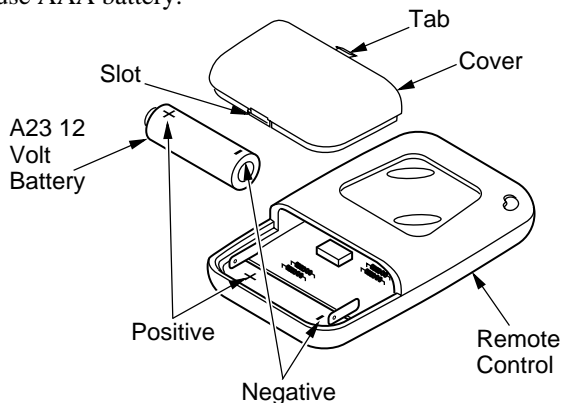

Figure 35 - Installing Battery
- Locate slot at bottom of remote control (see Figure 35). Firmly insert tool such as a small screwdriver, butter knife, or dime into the slot and lift up to remove cover.